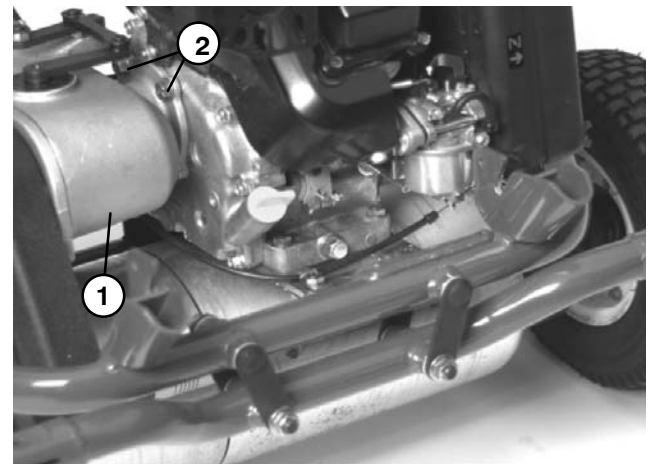

Figure 39
9. Loosen and remove four flange nuts that secure gearbox to engine (Fig. 39).
6. Rotate engine crankshaft slowly with recoil starter to align crankshaft gear with gearbox input gear. Align gearbox flange onto setscrews. Install and tighten four flange nuts that secure gearbox to engine (Fig 39).